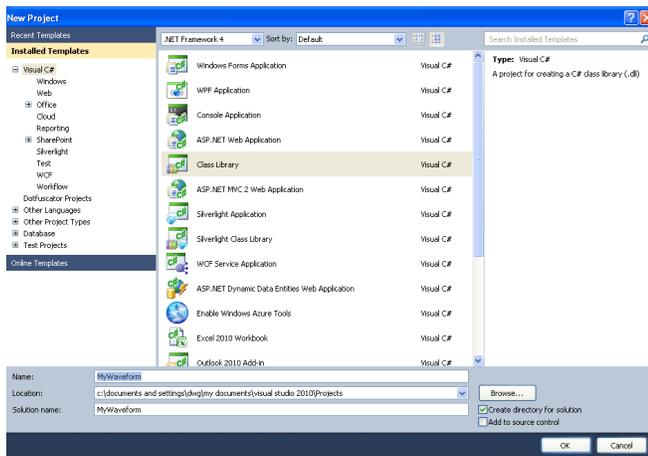

Figure 2. New project setup in Microsoft Visual Studio 2010.
2. Select Class Library from the list of templates and enter a project name. In the example, it is called “MyWaveform”. See Figure 2.